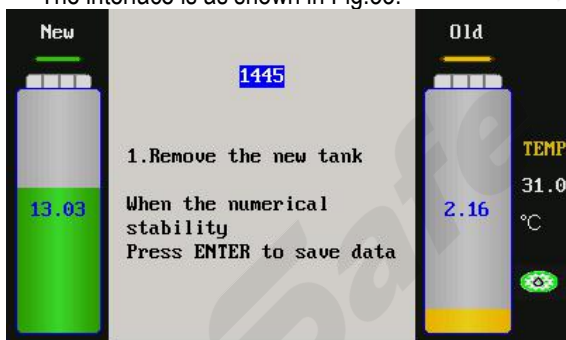

Fig.33
- 3) According to the prompts on the interface, OK the weight value of the weight, and then press OK key. The interface is as shown in Fig.33.